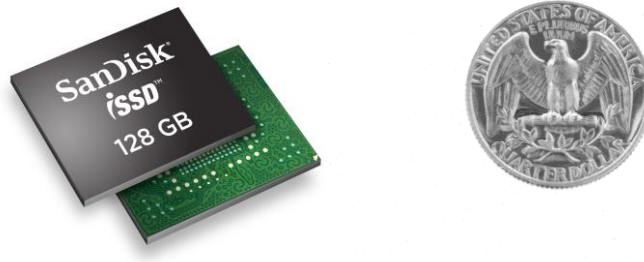

Figure 3. microSSD
- SATA microSSD:** The SATA microSSD is completely self-contained within a single BGA package. SATA microSSD devices can be mounted directly onto a motherboard to provide a low profile of less than 1.5 mm (see Figure 3). Standardization of the signal/ball layout and use of a JEDEC standard BGA package ensures that products from different manufacturers are interchangeable.